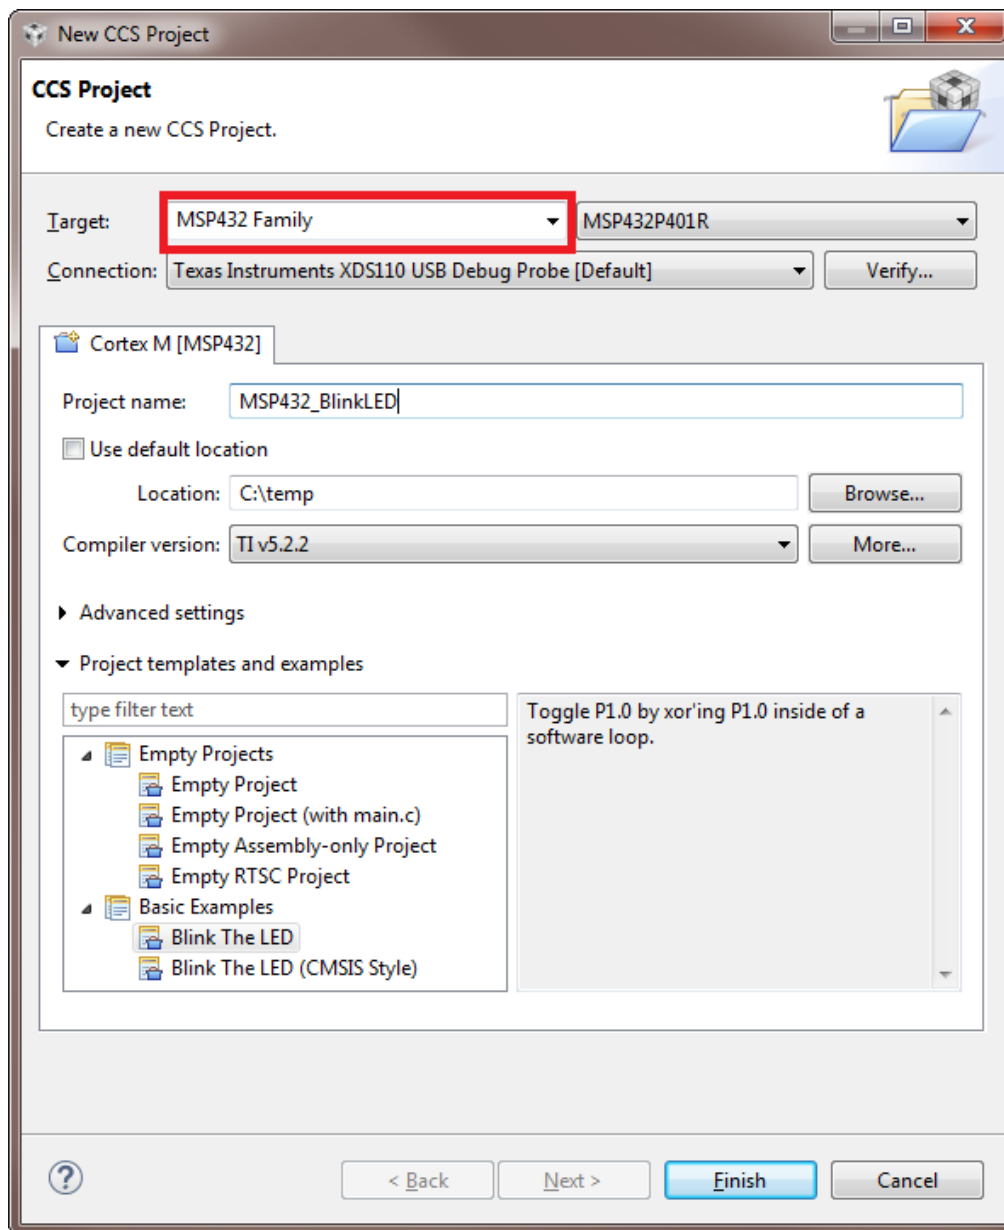

Figure 4. New Project Wizard
- Select **MSP432** as the target family (see Figure 4), which limits the list of devices in the device pulldown list